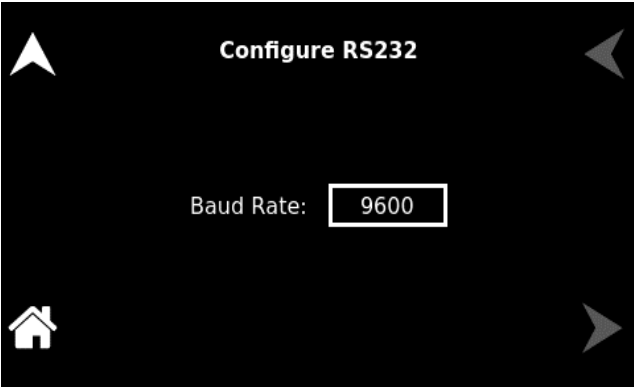
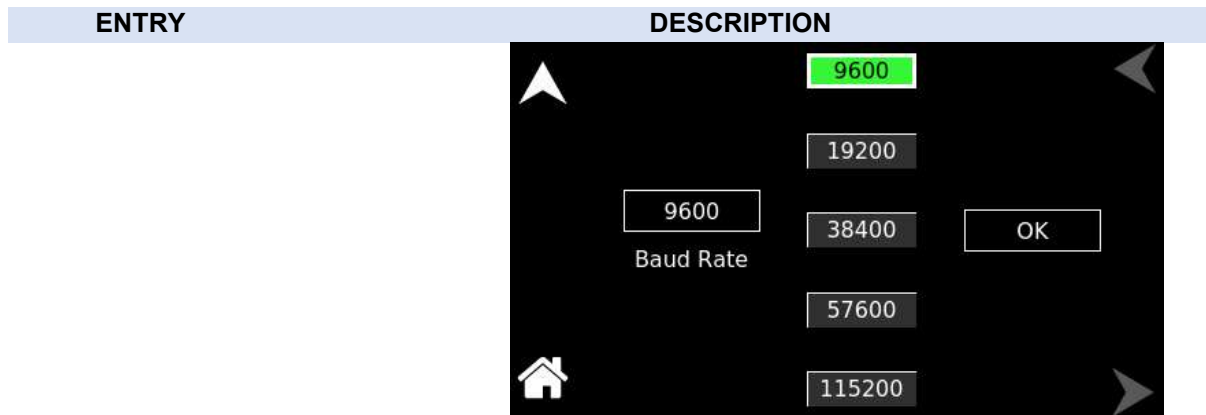

Figure 11-132. RS232 Screen -Configure
**Figure 11-133. Baud Rate Selection**
- b) **Configure RS232:** Configures the RS-232 Baud Rate, refer to Figure 11-132 and Figure 11-133. This setting must match those set for the communications port of the user external controller.